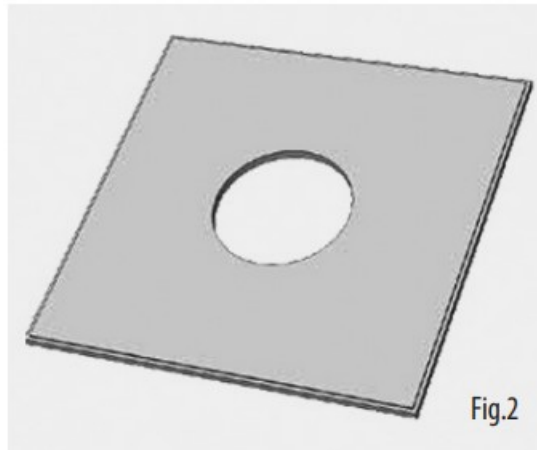
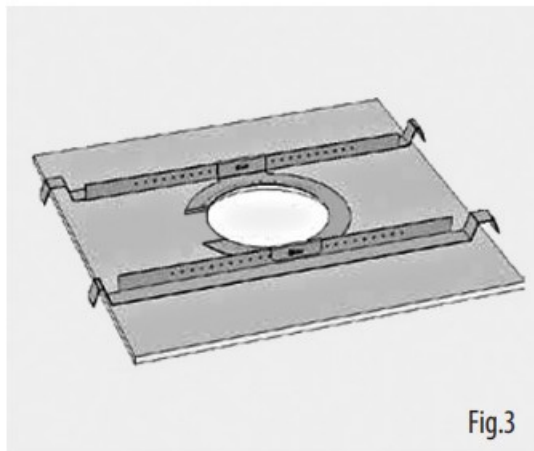

Fig.2
Fig.3
2. Cut out the hole in the ceiling tile using a circular saw or pad saw (Fig.2). Place the C-ring and tile-bridge on top of the ceiling panel, aligning the C-ring over the hole, and screw the C-ring to the tile bridge using the fixings provided. (Fig.3)